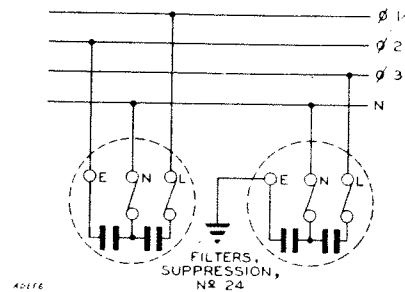

FIG. 5—METHOD OF CONNECTING CAPACITORS TO A 4-WIRE 3-PHASE SUPPLY SYSTEM
26. For mercury-arc rectifiers or 3-phase motors, all four wires, or in some cases only three line wires (see par. 23), are led in. Two "Filters, Suppression, No. 24" may be connected as in Fig. 5.